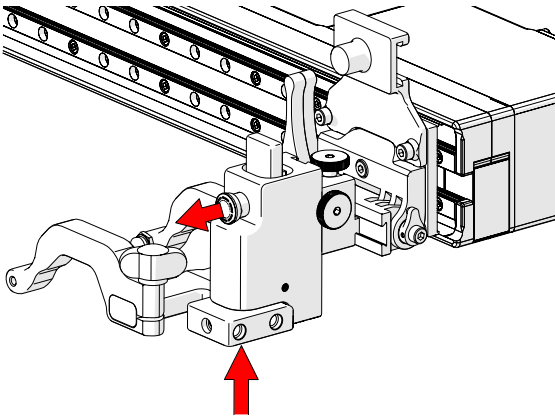
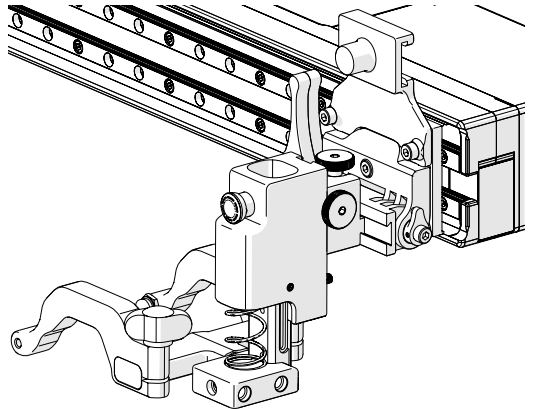

Fig. 197 - Press up and pull latch
Fig. 198 - Lowered toward scan surface
1. Gently lift the heavy duty vertical probe holder and simultaneously pull the latch (Fig. 197). This action will unlock the probe holder. Slowly lower the probe holder towards the scan surface (Fig. 198).